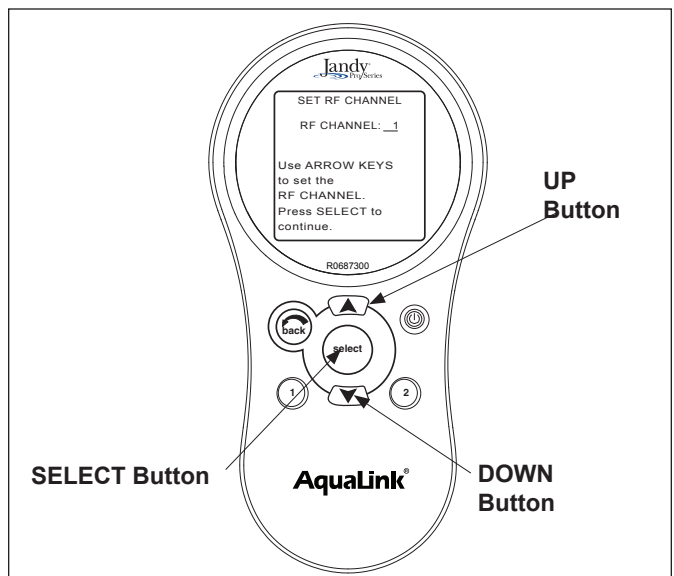

Figure 3. Handheld Remote Channel Setup and Buttons
2. On the Handheld Remote, press and hold both the UP and DOWN arrows simultaneously for three (3) seconds. After 3 seconds, the CHANNEL SETUP screen appears (see Figure 3). Select a channel.